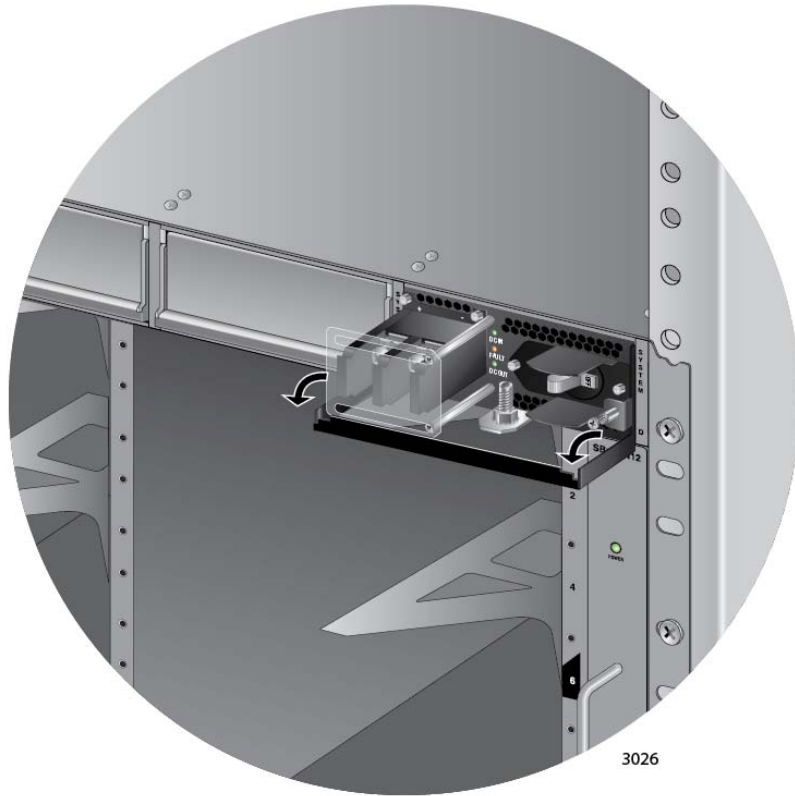

Figure 61. Locking the Handle on the AT-SBxPWRSYS1 DC System Power Supply
7. Lower the locking handle of the power supply module to secure the module in the slot, as shown in Figure 61.